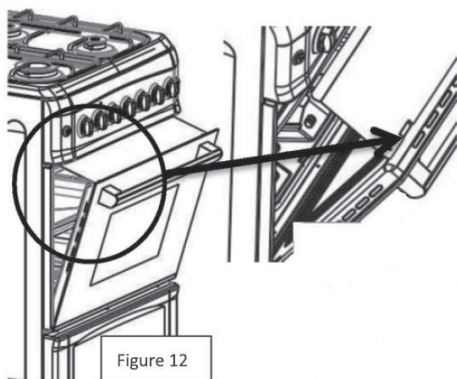

Figure 12
6. Place the grill deflector under the control panel by opening the oven door and locating the panel over the lugs as per the diagram below. The panel must be fitted with the symbol facing upwards. Then secure the grill deflector by gently closing the door. Use the grill deflector suitable for the appliance. (Figure 12 or Figure 13)